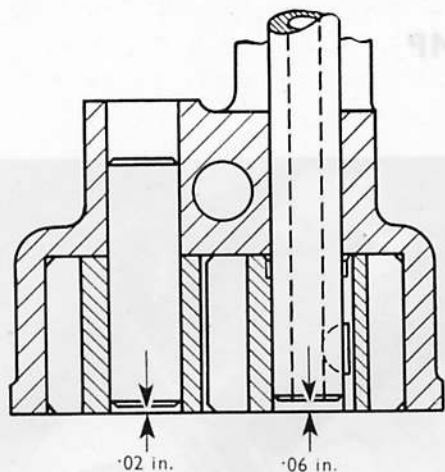

Fig. A.23. Section showing the assembled position of the driving spindle relative to its impeller, and the driven spindle relative to the body cover face
position shown in Fig. A.23. The spindle must be a tight fit in the body.
3. Where renewal is necessary, install the key and press on the driving impeller until the spindle end is recessed below the impeller by the amount shown in Fig. A.23. If the original impeller is being refitted, ensure that its previously marked end face is towards the bottom cover face of the body.